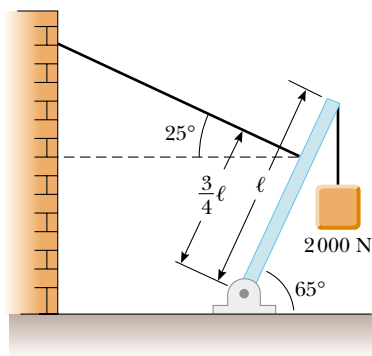

Figure P12.44
44. A 1 200-N uniform boom is supported by a cable, as illustrated in Figure P12.44. The boom is pivoted at the bottom, and a 2 000-N object hangs from its top. Find the tension in the cable and the components of the reaction force exerted on the boom by the floor.